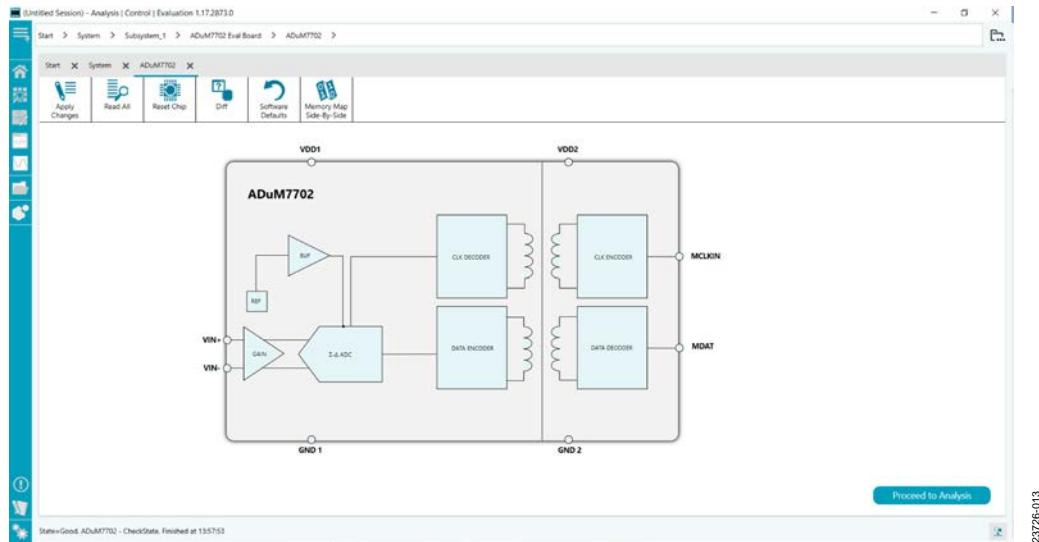
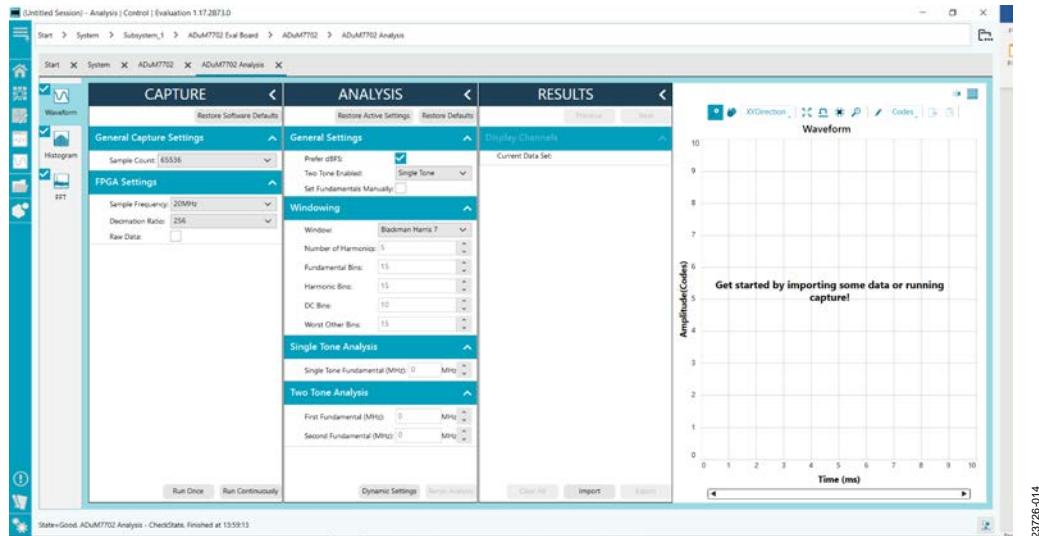

Figure 13. Chip View Window
Figure 14. Analysis View Window
3. Double click the **ADuM7702 Eval Board** icon (see Figure 12) to open the chip view window shown in Figure 13.
Click **Proceed to Analysis** in the chip view window of the **ACE** software (see Figure 13) to open the analysis view window shown in Figure 14. The analysis view window contains the